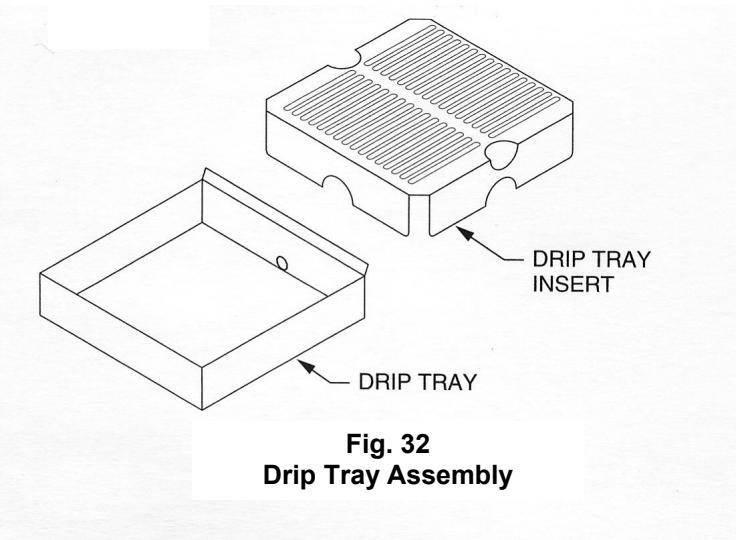

Fig. 32
- Install the drip tray and drip tray insert (Fig. 32).